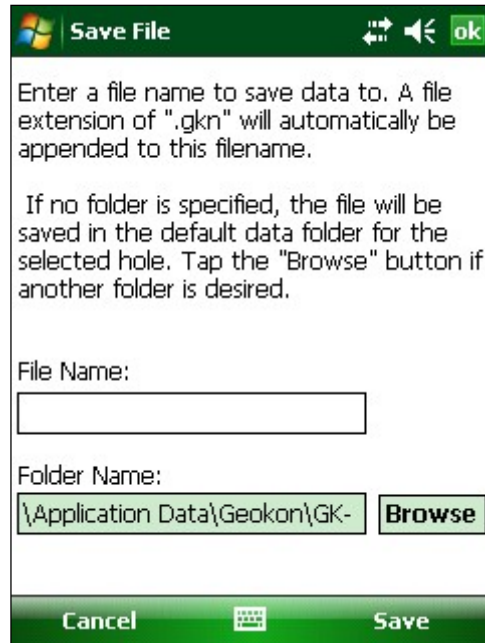

Figure 35 - Save File Screen
- If you select **No** (to the auto incrementing option) you will be shown the standard **File Save As** screen and you can modify the file name to anything you choose. Use the stylus to click on the keyboard icon (bottom) and make the changes you desire (see Figure 35).
13. If “No” is selected (to the auto incrementing option) the standard **File Save As** screen will be shown giving the option of modifying the file name to another name of the user’s choosing. Use the stylus to click on the keyboard icon (bottom) and make the changes desired (see Figure 35).